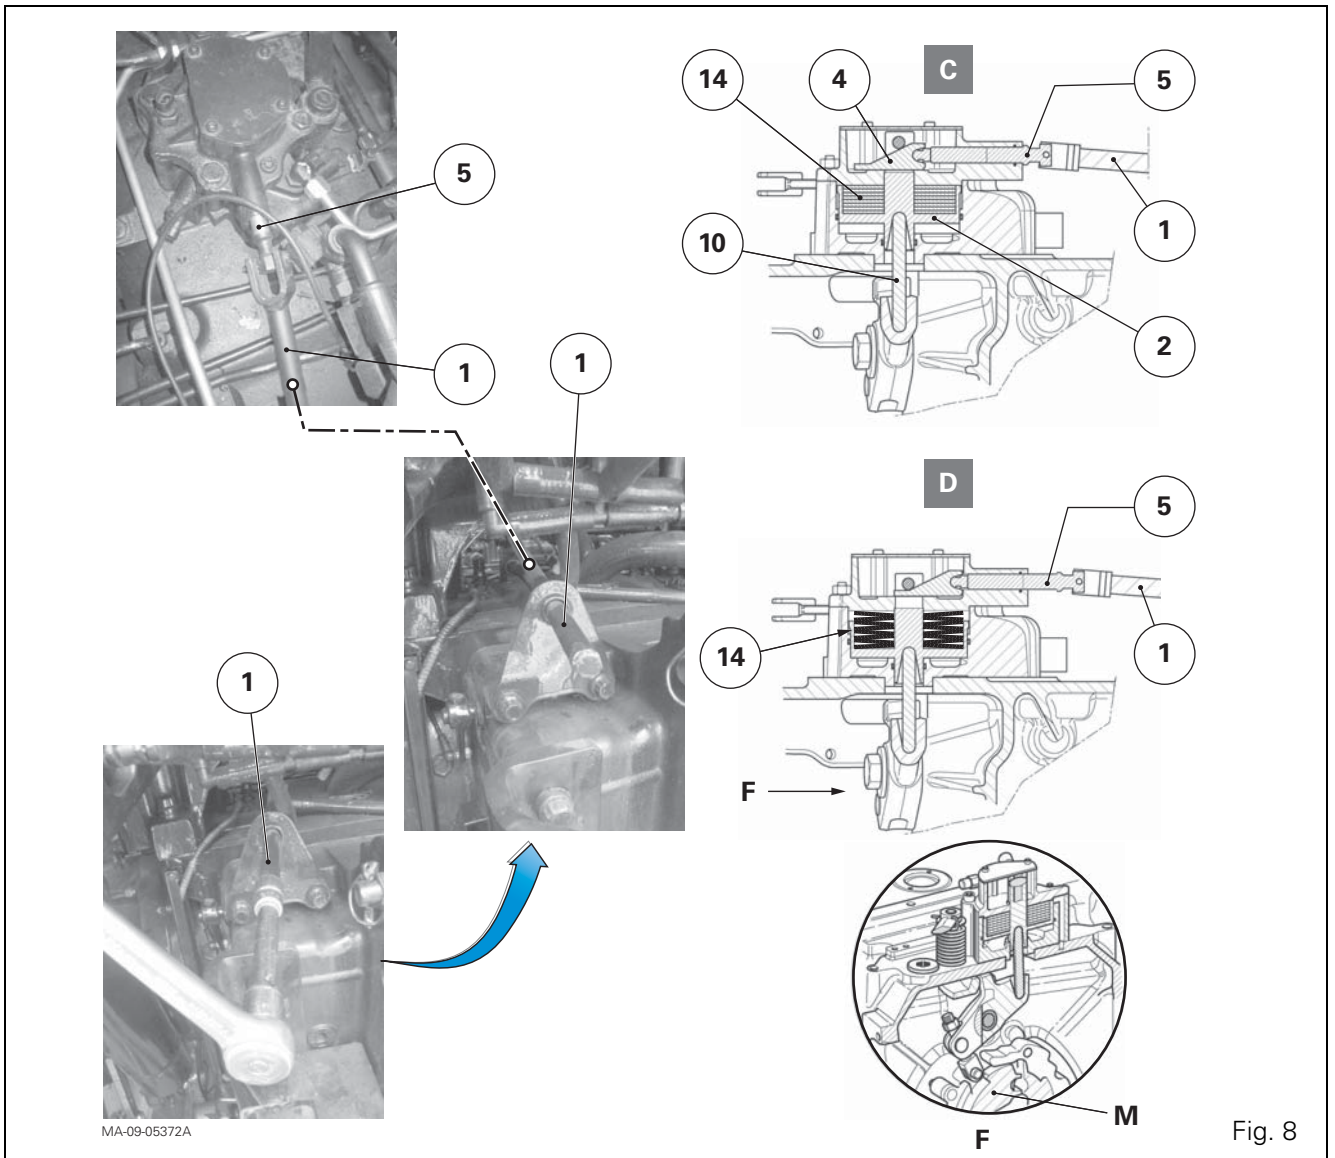

Fig. 8
Manual disengagement (C) (Fig. 8)
Manual engagement (D) (Fig. 8)